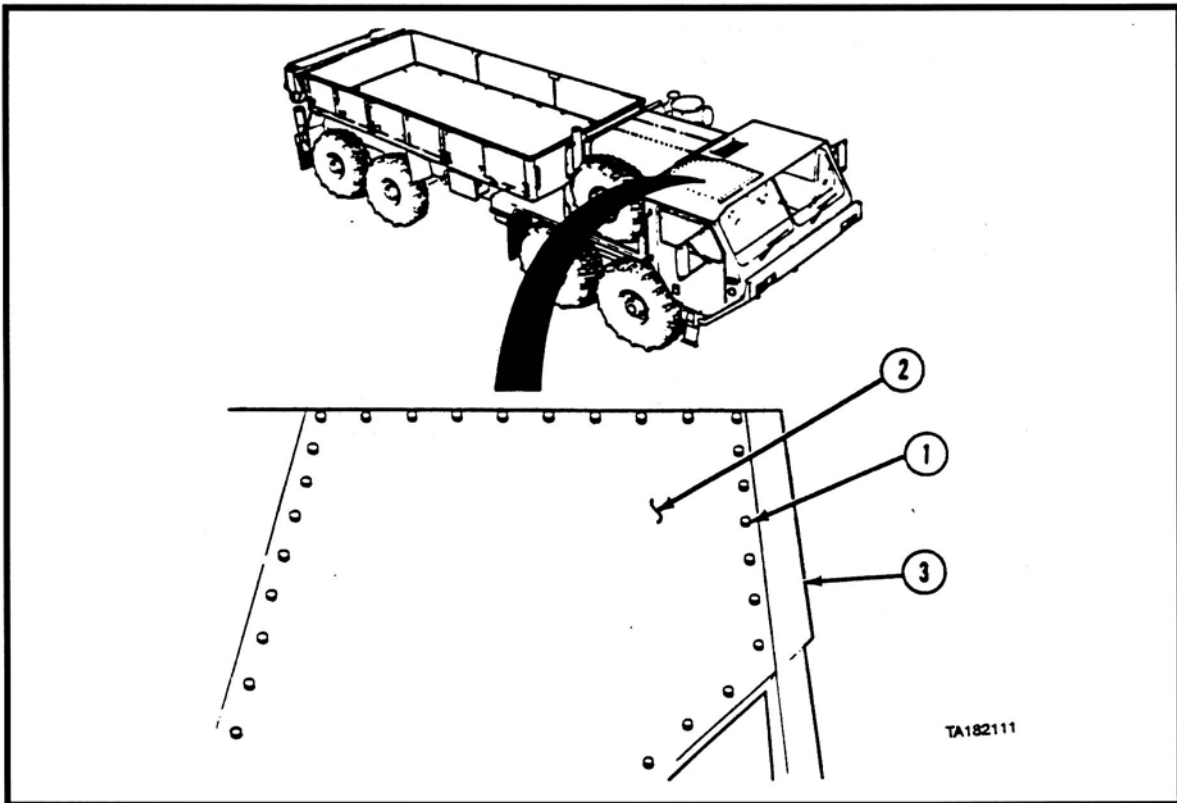

Figure 14. Remove the Passenger-Side Roof Panel (Machine-Gun Mount) Attachment Bolts.
- a. Remove the 34 bolts (Item 1 in Figure 14) that secure the Passenger-Side Roof Panel to the HEMTT roof and remove the Passenger-Side Roof Panel.